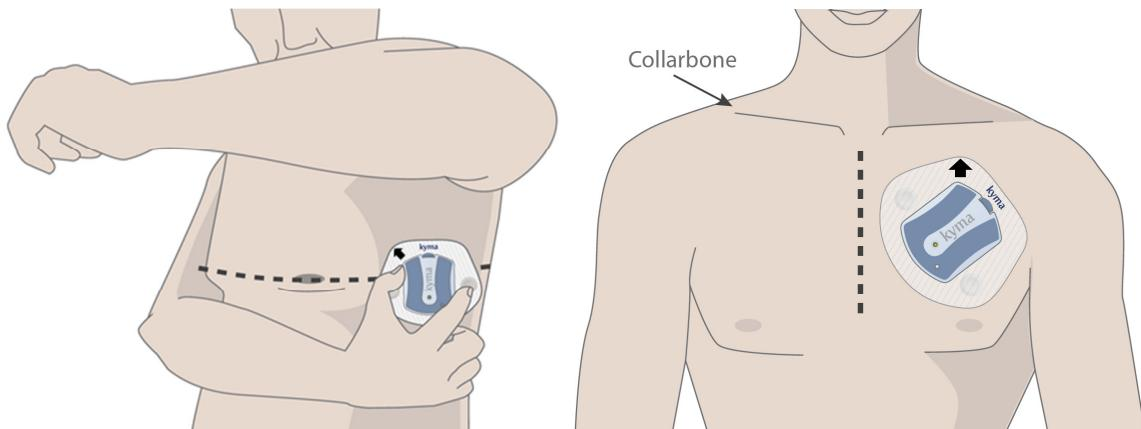

Figure 5: Device (Sensor + Patch) placement location
There are two potential locations for this device (Sensor + Patch) placement: (1) below left armpit (side location); and (2) upper left chest (front location). See **Figure 5**. Your prescribing physician will determine and inform you about the placement location for you – if you do not know or remember your device location information, please contact ZOLL at 1-888-592-3798.